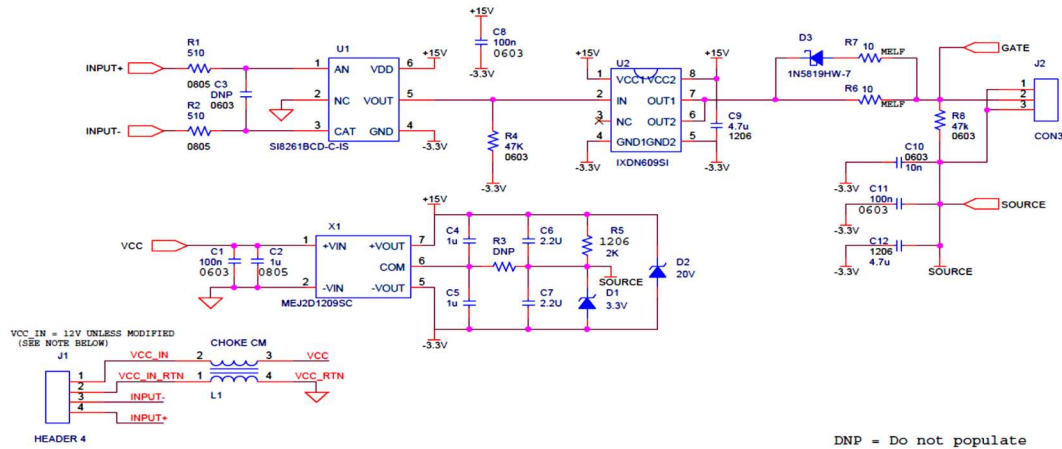

Figure 7: Schematic of Cree's CGD15SG00D2 gate driver board
In Cree's CGD15SG00D2 gate driver board, X1 gets 12V input and with the help of a Zener diode (as shown in Figure 7) at the output, X1 gives a dual output of +15 V (turn-on signal) and -3.3 V (turn-off signal). Gate resistors R6 and R7 and a diode D3 (as shown in Figure 7) have been provided for gate turn-on and gate turn-off signals. These gate resistors R6 and R7 are metal electrode leadless face (MELF) 207 packages with a power rating of 0.4W.
In order to minimize stray inductance and to achieve tight coupling, capacitors C10-C12 (as shown in Figure 7) have been placed very close to the source output pin. Specified operating conditions for Cree's CGD15SG00D2 gate driver board are shown in Table 2.
Detailed schematic of Cree's CGD15SG00D2 gate driver board has been shown in Figure 7.
- Biasing input (VCC) (as shown in Figure 7) needs to be set at 15V instead of 12V.
- The 3.3V zener diode (D1) (as shown in Figure 7) that sets the negative bias voltage must be removed.